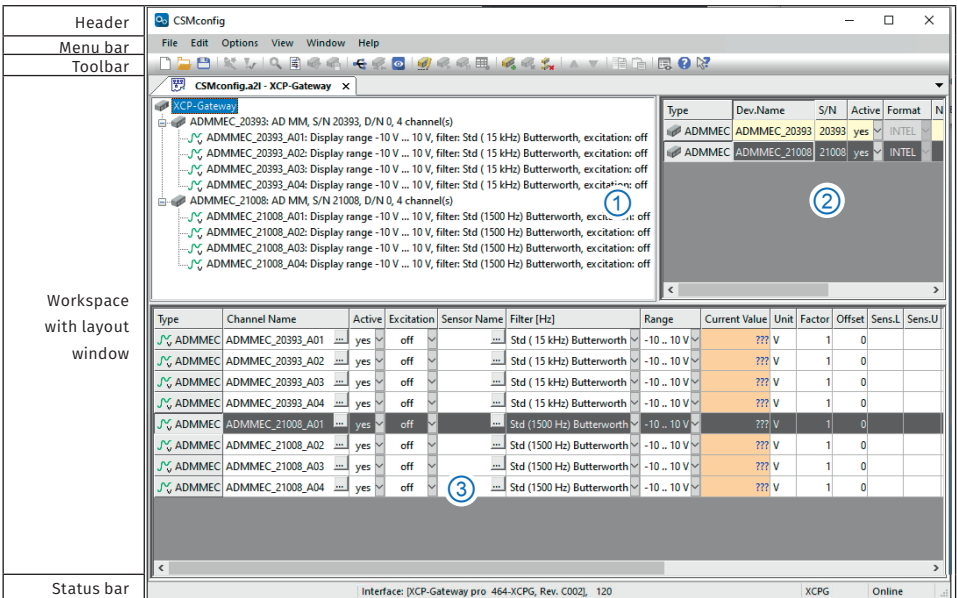

Fig. 5-4: CSMconfig user interface
- ▶ **Tree view** (Fig. 5-4, ①)
- ▶ **Device list** (Fig. 5-4, ②)
- ▶ **Channel list** (Fig. 5-4, ③)